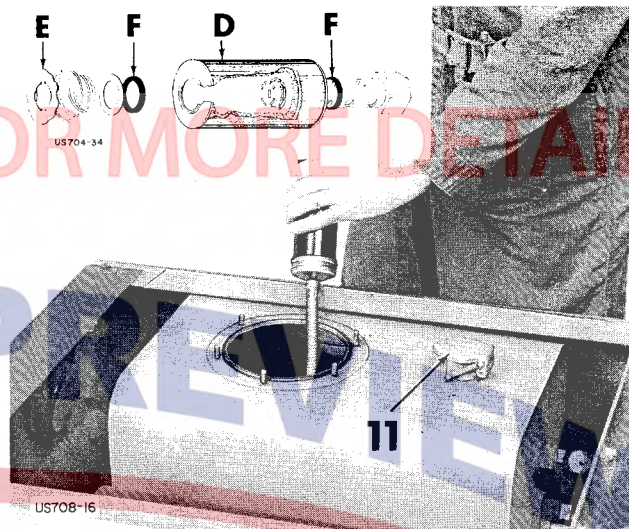

Figure 10
11. HYDROSTATIC AND HYDRAULIC RESERVOIR (Fig. 10) — Keep the level to the "full" mark on the dipstick below cap 11 with type "A" transmission fluid.
NOTE: ONLY ONE FILTER IS ILLUSTRATED IN FIGURE 10. BOTH FILTERS ARE THE SAME. REMOVE OIL FILTER ELEMENTS "D" FROM RESERVOIR. DISCARD THE FILTER ELEMENTS AND INSTALL NEW ONES. NOTE: TO REMOVE
FILTERS, LOOSEN RETAINER RING "E" (1/4 TURN) THEN REMOVE SPRING, RETAINER, WASHER AND SEAL. PULL FILTER ELEMENT FROM THE RESERVOIR. WHEN REPLACING FILTERS ALWAYS USE NEW SEALS "F" ON BOTH ENDS OF FILTERS. CHECK OIL LEVEL AFTER REPLACING FILTERS. TO DRAIN OIL FROM THE TANK WE SUGGEST THAT YOU USE A SUCTION GUN AS ILLUSTRATED IN FIGURE 10. WHEN REFILLING TANK, USE 11 GALLONS OF OIL. THE CAPACITY IS 13 GALLONS. HOWEVER, DUE TO EXPANSION ONLY 11 GALLONS ARE USED. FILL TO "FULL" MARK ON DIPSTICK.